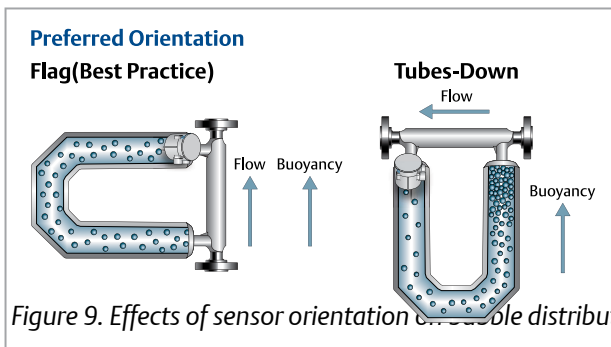

Figure 9. Effects of sensor orientation on bubble distribution
- *Vertical pipe runs with upward flow.* Especially at lower flow rates, bubble buoyancy tends to result in bubble collection near the inlet of the sensor when it is installed in a horizontal pipeline with the tubes down. Bubble buoyancy works with the flow to move bubbles through the tubes. For this reason, the best practice is to install the sensor in a vertical pipeline with the flow going up. Keeping flow rate high also helps eliminate this problem (Figure 9).